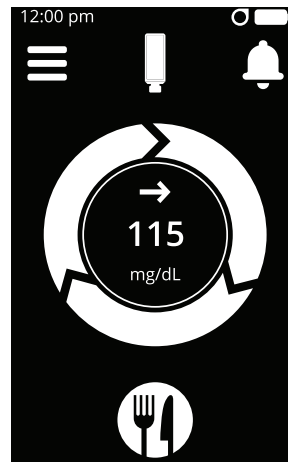

Figure 30
- From the **Home** screen, tap the **Menu** icon in the upper left corner (see Figure 30)